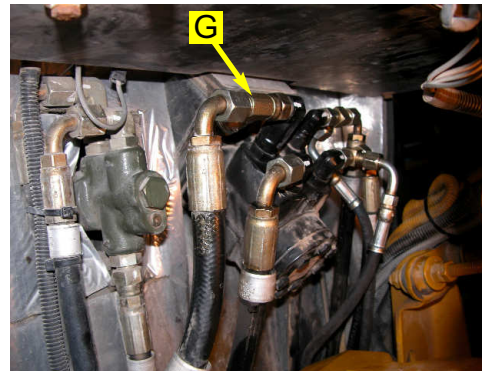

Figure 3c. Run-tee fittings.
- b2. Remove the hose, install the provided run-tee (**G**), and reattach the hose to the end of the run-tee. (Figure 3c.)
NOTE: Leave the run-tee fittings (**G**) loose to allow for alignment when attaching hoses. (Figure 3c.)
NOTE: Plastic caps placed on the open ends of the fittings will prevent excessive leakage prior to hose installation. (Figure 3c.)